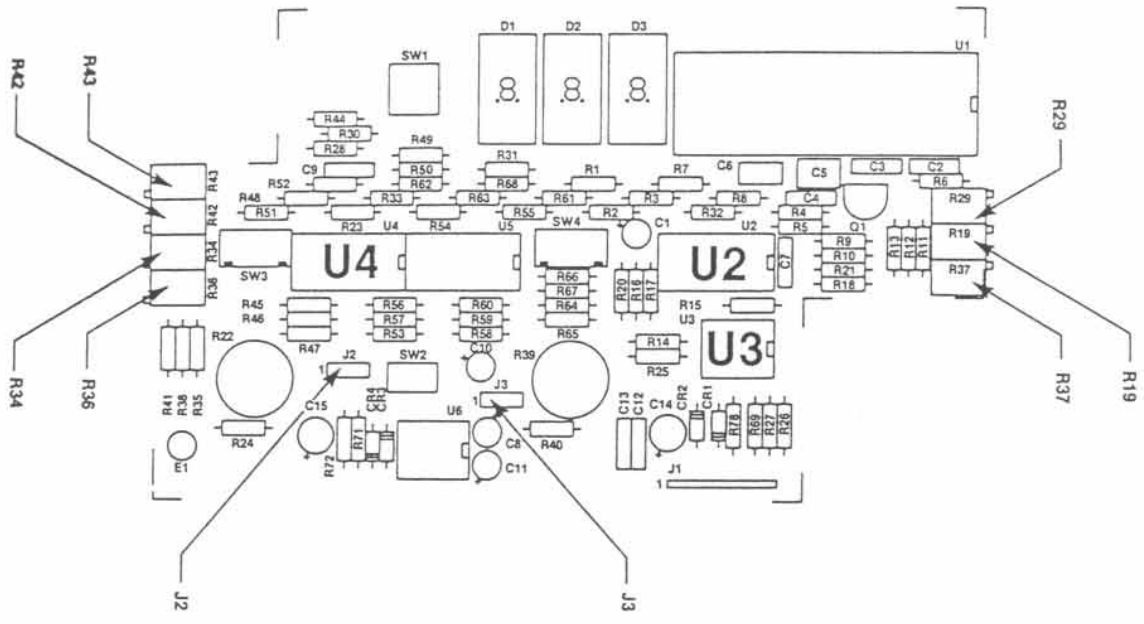

FIGURE 19.
5. Move the shorting block on J2 pins 2 and 3 to J2 pins 1 and 2. Move the shorting block on J3 pins 2 and 3 to J3 pins 1 and 2 (refer to figure 19).
6. Using dip clips, monitor the voltage across U2 pin 1 with respect to U3 pin 4 (refer to figure 19).
8. Adjust R19 (refer to figure 19) until the monitored voltage reaches $0 \text{ VDC} \pm .1 \text{ mVDC}$.